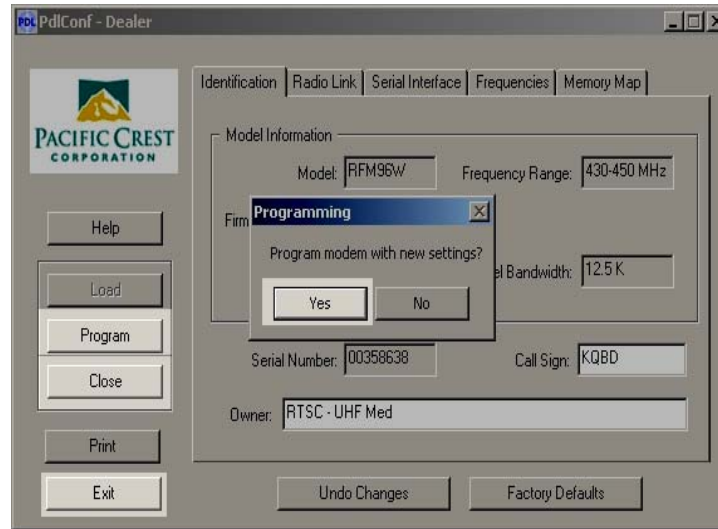

Figure 55. Program Entries and Changes Display
Once any entry or change is made to the RF Modem configuration, the “Program” button on the left side of the PDL window (see Figure 55) will become “active” (e.g., not subdued or grayed out).
- (1) Select this button to enter the new changes to the modem. The user will be prompted a second time to confirm that the RF Modem is to be reprogrammed, with selections for “Yes” or “No.” When “Yes” (see Figure 55) is selected, a timer screen will appear indicating how far along the programming is and reminding the user not to disconnect the RF Modem from the laptop or power. Programming normally should only take seconds to complete. After it is done, the “Program” button will no longer be available to select unless the user chooses to make any changes under the various configuration tabs.
- (a) Select the “Close” button (see Figure 55) to begin programming a second RF Modem, or select “Exit” (see Figure 55) to close the program.